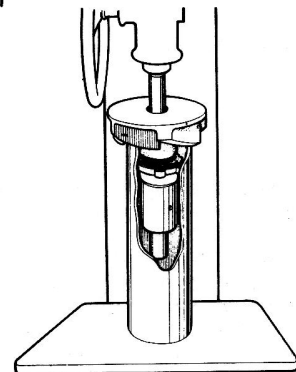

Fig.2.10. Removing the impeller from the pump spindle
- 4 Press out the spindle from the impeller as illustrated in Fig.2.10 and remove the seal and rubber water thrower.